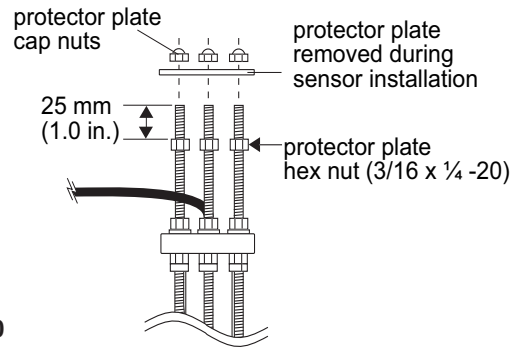

Fig. 10
- F.** Thread protector plate hex nuts onto each of the three threaded rods. Adjust each hex nut to a height of approximately 25 mm (1 in.) from the top of each rod. (Fig. 10)